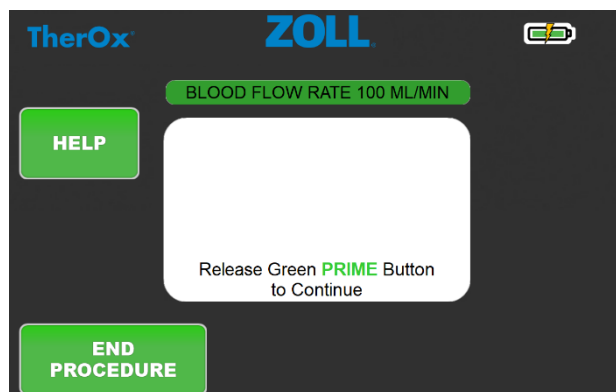

Figure 16. Prompt to Release PRIME Button
4. Keep pressing the green PRIME button until the screen gives notice that the console pressure is stabilizing (see **Figure 16**) and allows the release of the green PRIME button.